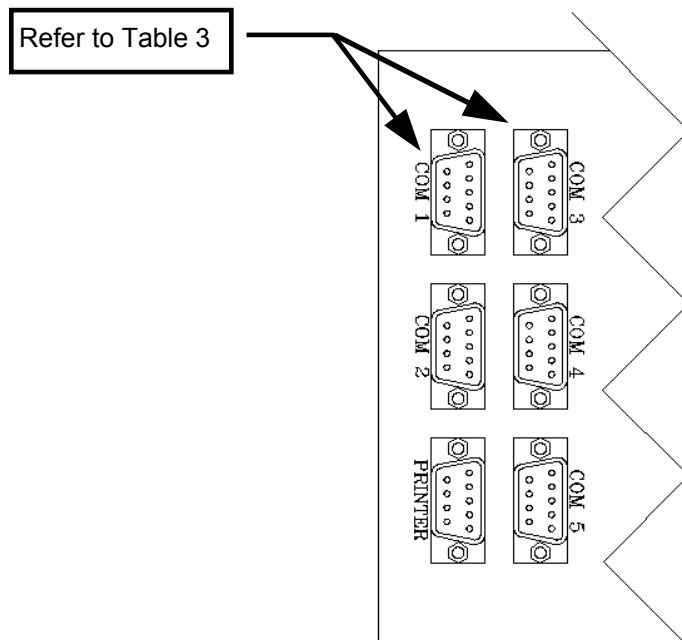

Figure 22 - EECO SYSTEM Galaxy Serial Port Identification
- Plug the Modular Adapter into the Local Port at the ATG console. Refer to Table 3 and Figure 22 for the serial port location.